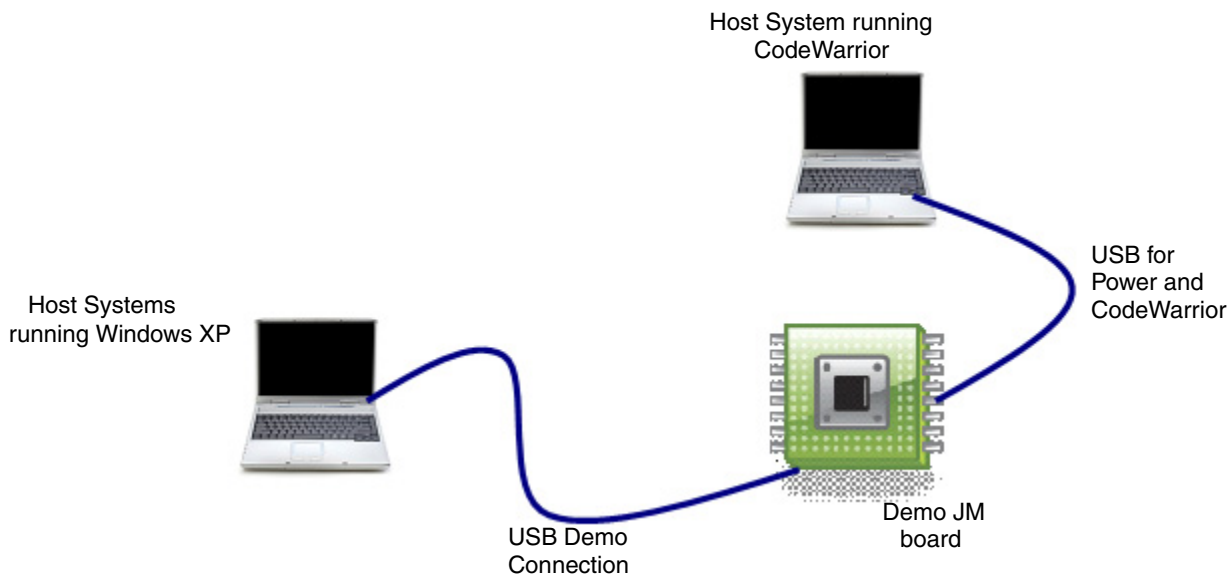

Figure A-7. S08 USB setup
- Make the connections as shown in Figure A-7. Here for hardware setup S08 is used as an example.
Although, we have used two personal computers in Figure A-7, in reality you may achieve the same result by a single personal computer with two or more USB ports.